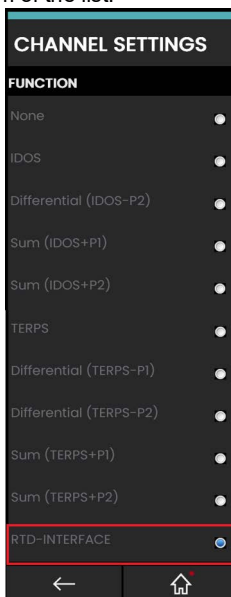

Figure 6-3: CHANNEL SETTINGS screen - available FUNCTIONS
- Tap on the **FUNCTION** menu row option to show the related **CHANNEL SETTINGS** screen, Figure 6-3 below, to show a list of the available functions for the channel. Tap on **RTD-INTERFACE** at the bottom of the list.